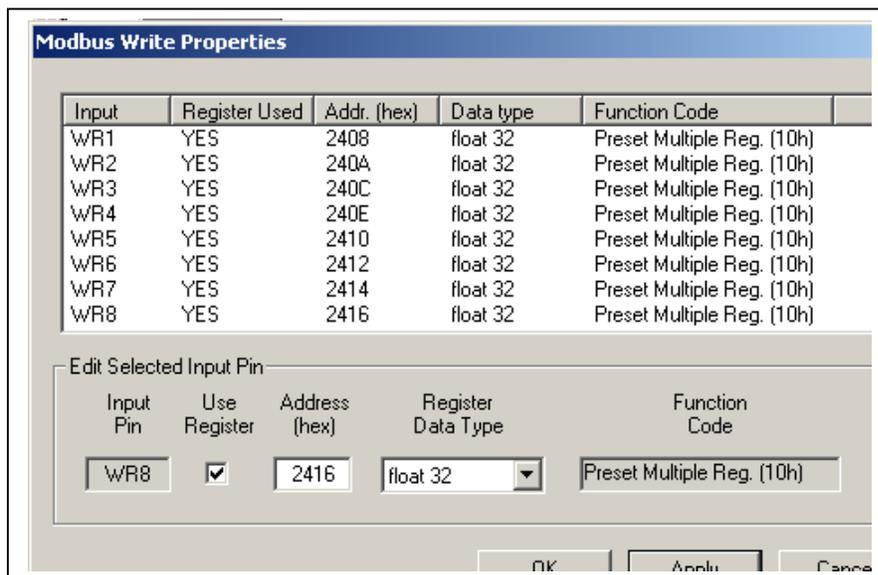

Figure 3
- Click on the Modbus Write block for the recorder Extended Communication Values\* 5 through 12, select a write channel (1 to 8) and enter the following for each channel: See figure 3.